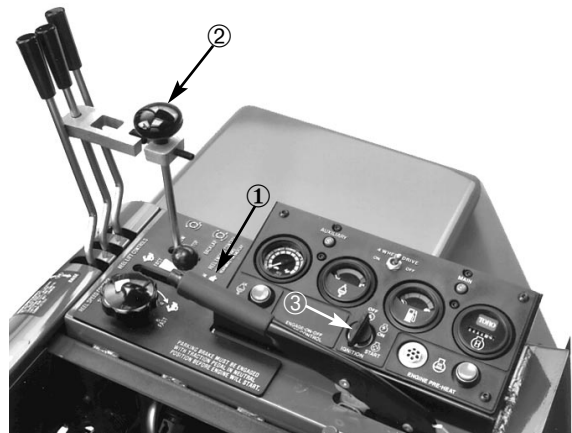

Figure 14
2. Sit on the seat and engage the parking brake (Fig. 14). Turn the key and try to start the engine with the Mow Backlap lever (Fig. 14) in both the MOW and BACKLAP positions. If the engine cranks, there is a malfunction that must be repaired immediately. If the engine does not crank, the cutter drive switch is operating correctly.
3. Sit on the seat and disengage the parking brake (Fig. 14). Turn the key and try to start the engine with the Mow Backlap lever (Fig. 14) in STOP. If the engine cranks, there is a malfunction that must be repaired immediately. If the engine doesn't crank, the brake switch is operating correctly.
4. Engage the parking brake (Fig. 14), start the engine and lower the cutting units. Move the Mow-Backlap lever (Fig. 14) to MOW. Rise off the seat; the engine should stop within a few seconds, which indicates the interlock system is operating. Also rise off the seat with the lever in BACKLAP. The engine should stop, indicating the interlock system is operating. If the engine does not stop, there is a malfunction that must be repaired immediately.